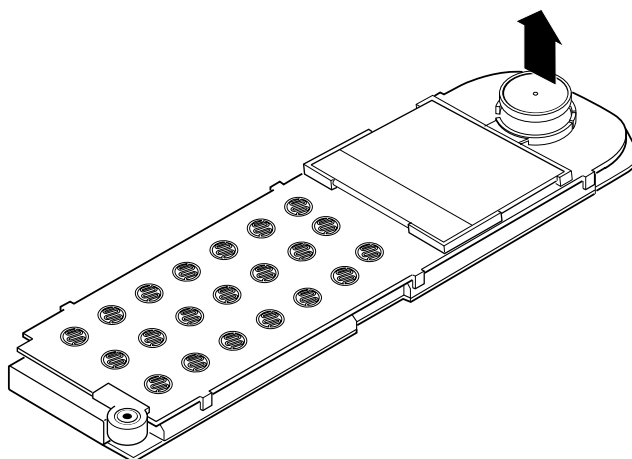

Figure 10: Earpiece removal
10. (Figure 10) Remove the earpiece from the logic PCB by pushing the earpiece down against the two locating lugs to disengage the case tabs. Lift the assembly upwards.